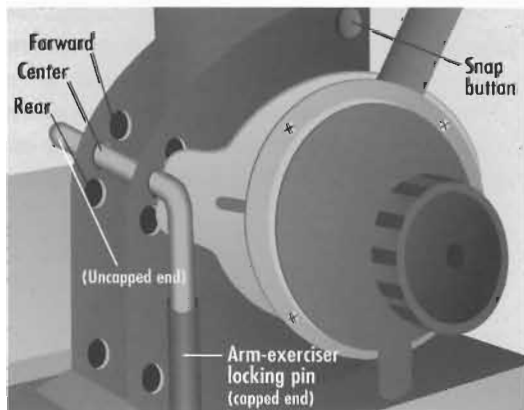

Figure 5
- Rotate the arm-exerciser locking pin down to secure it in place (Figure 5). The capped end of the pin should be perpendicular to the base.